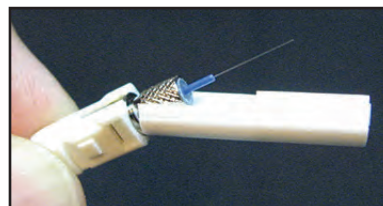

Figure 1
3. While holding the connector firmly, pull down on the cleave protector to remove it from the connector (Figure 1).